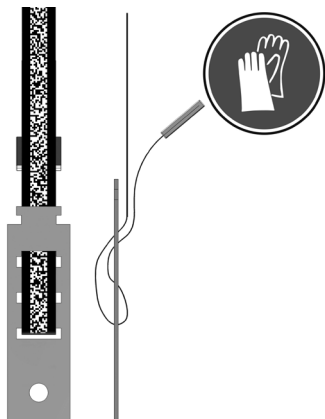

Figure 28: Bottom tension lock threading
2. Thread the APS code tape into the bottom tension lock → Figure 28.